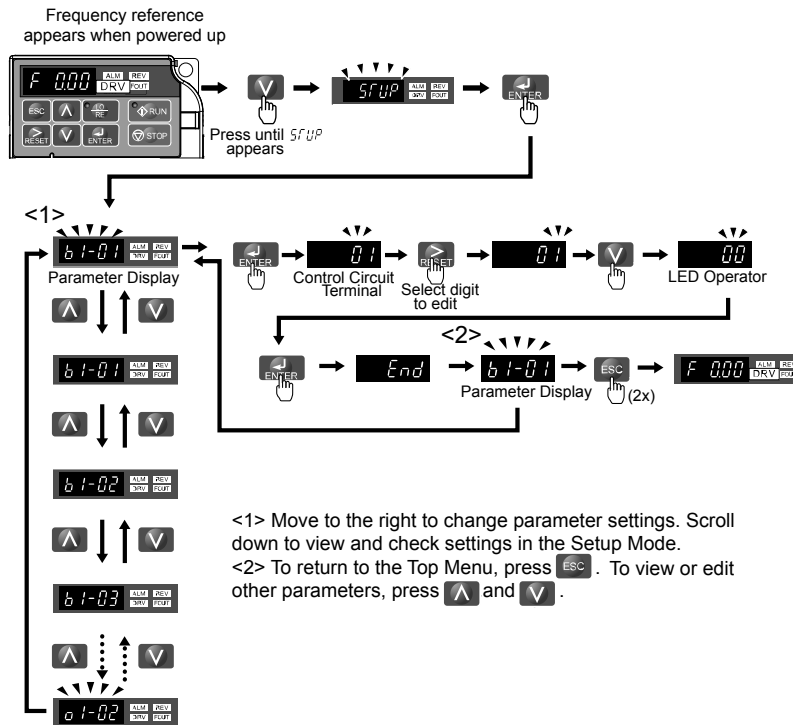

Figure 4.5 Setup Group Example
Figure 4.5 illustrates the keys to press to enter the Setup Group.
*Figure 4.5* describes basic start-up sequence for the drive and motor system. This sequence varies slightly depending on application. Use drive default parameter settings in simple applications that do not require high precision.